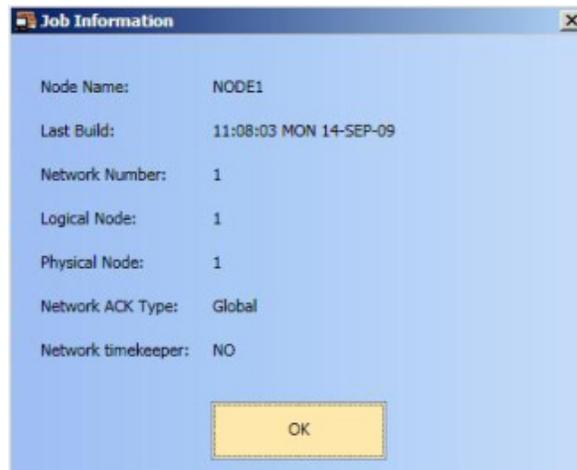

Figure 11-16 Job Information Dialog Box
- b. View the information of a job: select the job and then click on **More Info**. The **Job Information** dialog box appears, as shown in Figure 11-16.